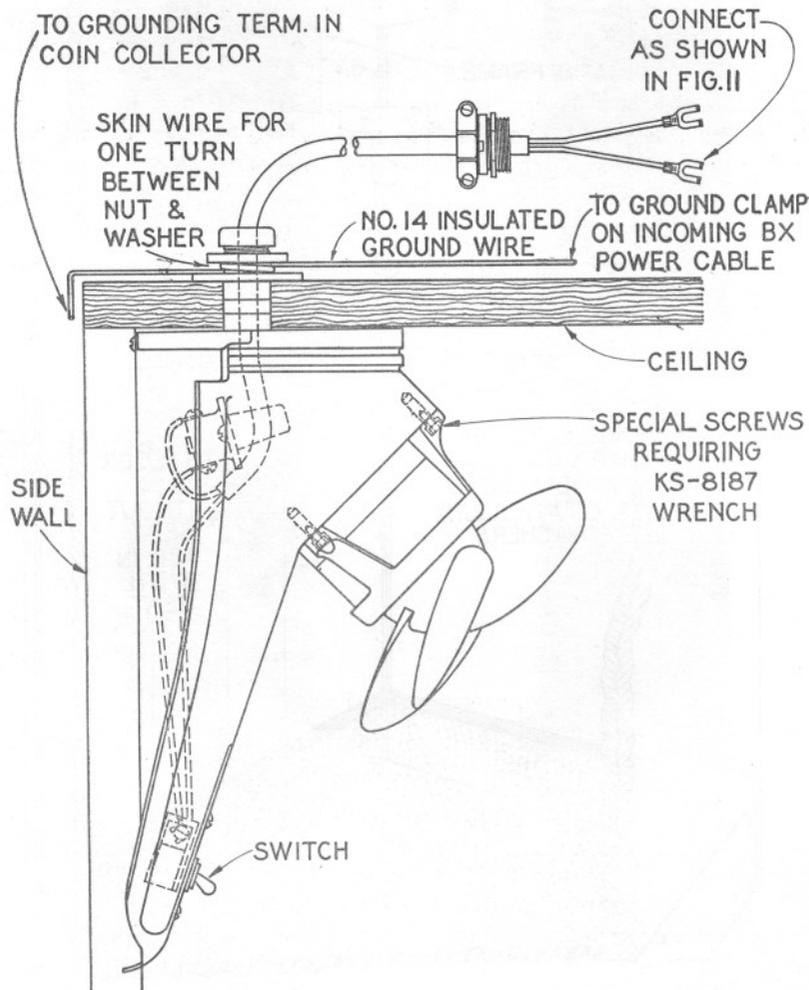

Fig. 16 — KS-8164 Ventilator
11.04 Install KS-8164 ventilator in 5- and 6-type booths as shown in Fig. 16.
ventilator 2-1/16 inches from rear inner wall and 2-1/16 inches from side inner wall as shown in Fig. 16. If the ceiling is metal-lined, cut through the metal with a 1-inch hole saw; then drill the wood with a 1-inch auger bit.
Ground ventilator by passing one turn of coin collector grounding wire P-12C414 between washer and nut, as shown in Fig. 16.